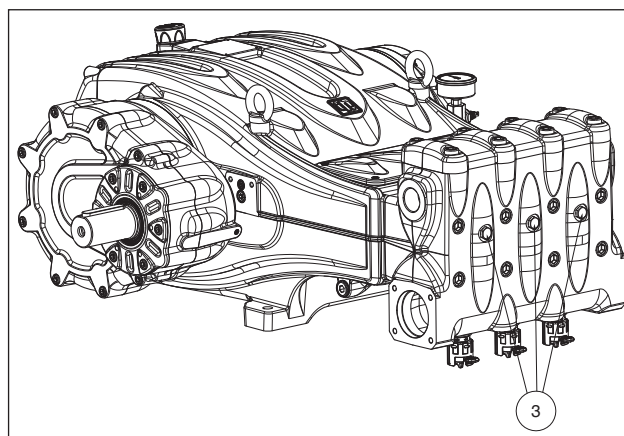

Fig. 11
Should there be any priming trouble due to insufficient supply, it is possible to remove the three plugs in front of the head (except for the MXXR40 - MXSR40 versions) as shown in pos. ③ Fig. 11.